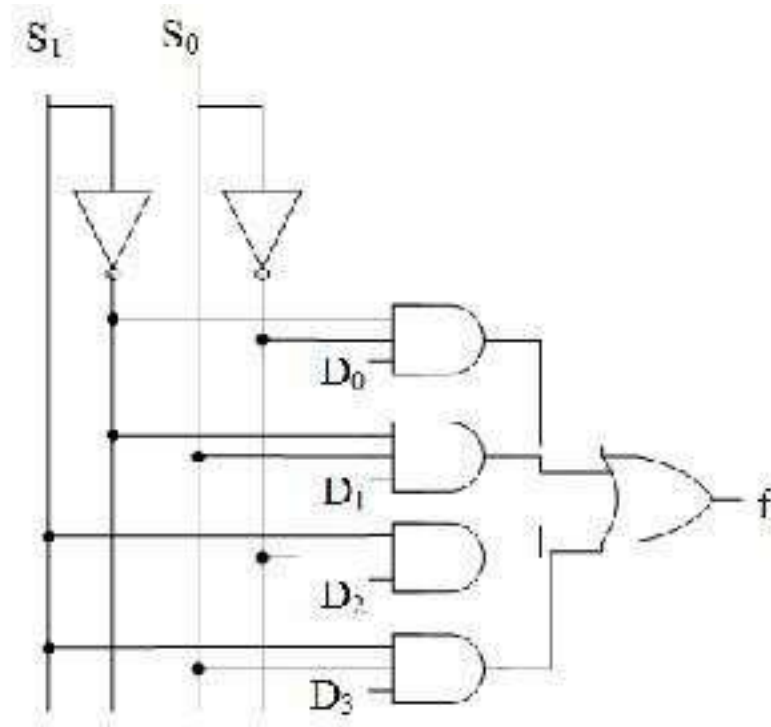

Figure1: 4to1 Multiplexer
The logic circuit of the equation (1) is given in figure 1.